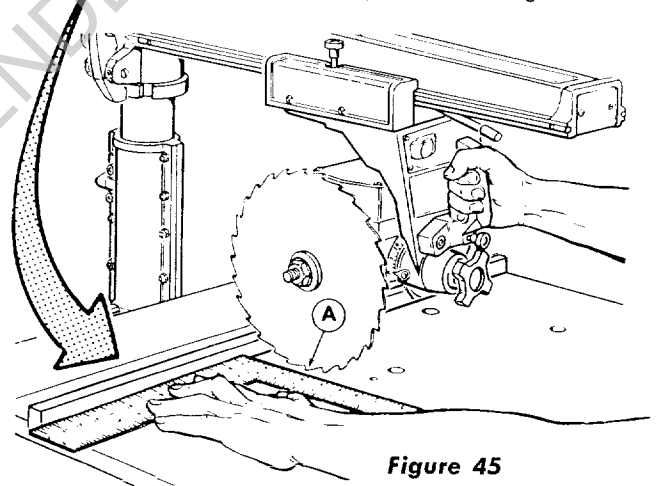

Figure 45
(2) Place the long leg of a framing square against fence and a tooth "A", as shown in figure 45.
(3) Move the saw blade forward along the square (figure 45) to determine in which direction the radial arm must be adjusted.